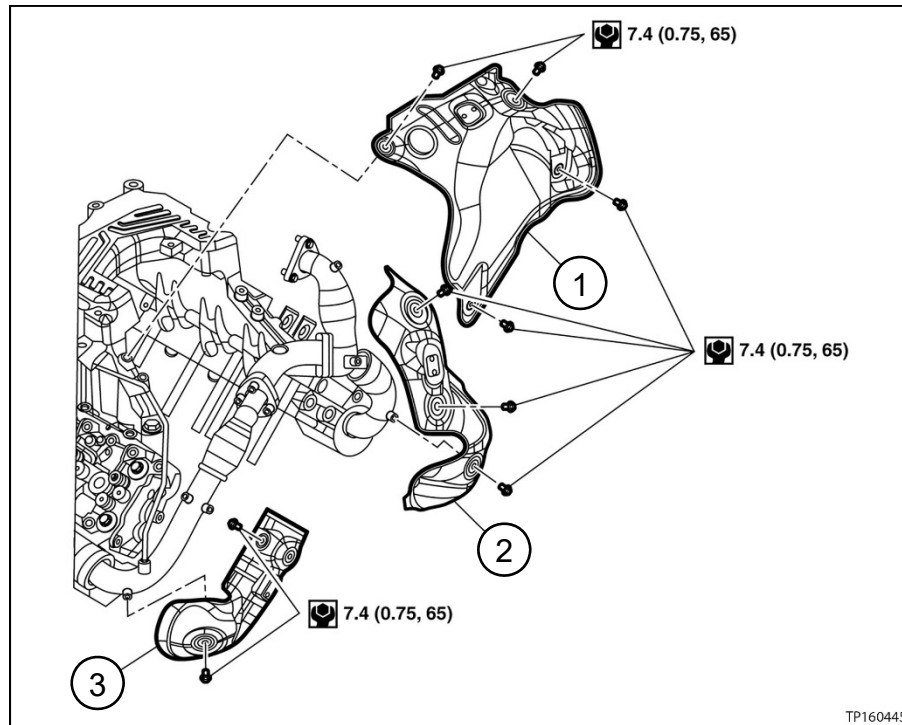

Figure 14
10. Remove the nine (9) bolts, and then remove all three heat shields (see Figure 14).